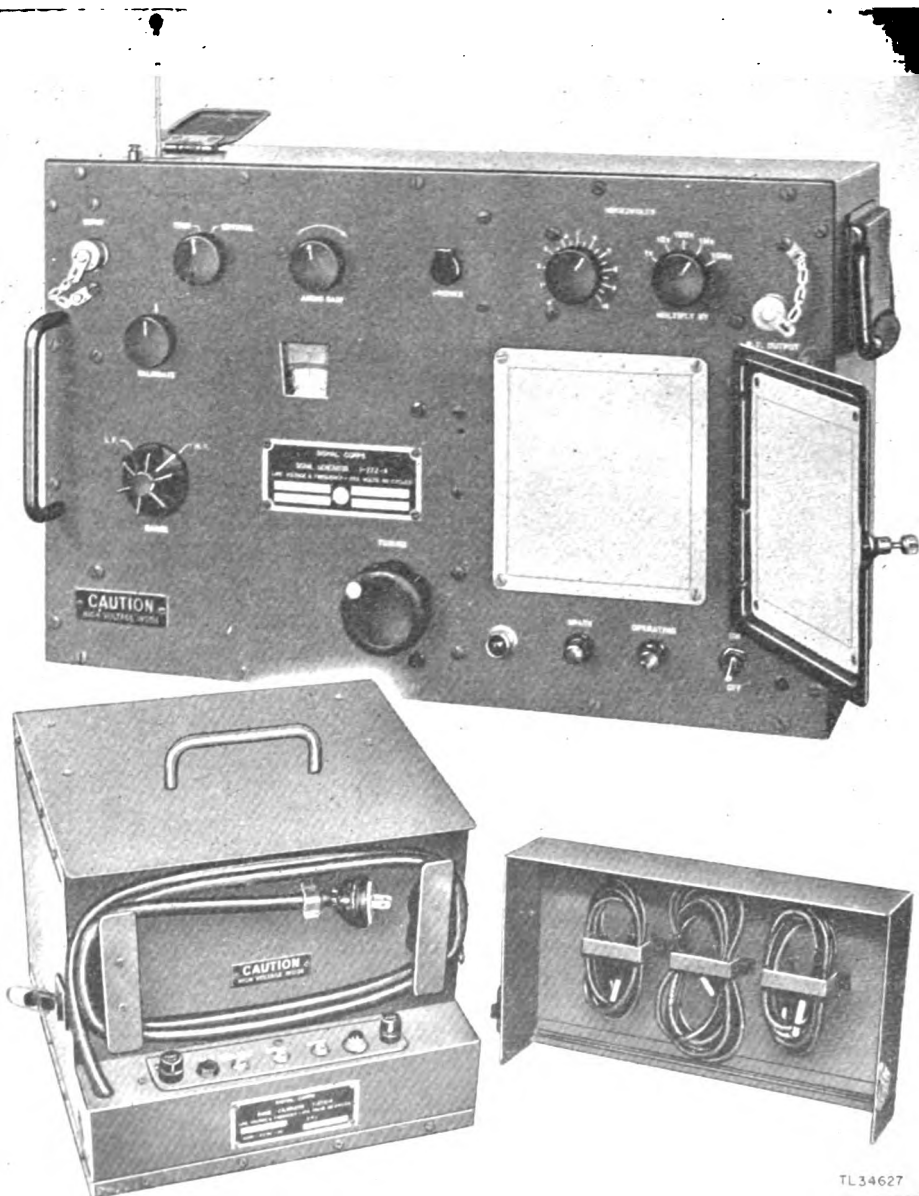

Figure 27. Test instruments.
- c. LOCATION (figs. 27, 28, 29, and 30).
- (2) The test instruments (fig. 27) for—